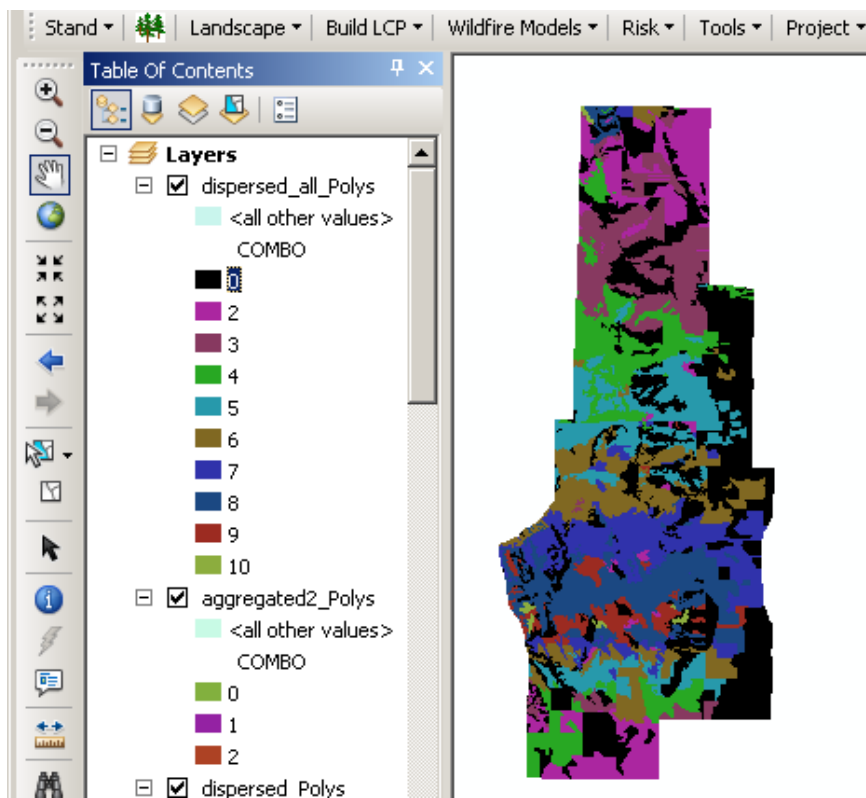

Figure 5-29—Dispersed solution, with multiple objectives and constraints.
- 6) Map the solution (fig. 5-29). There are nine treatment solutions, the COMBO field is the sum of DoTreat and the iteration, so it starts as two. When COMBO is zero this means the stand did not meet the treatment thresholds.